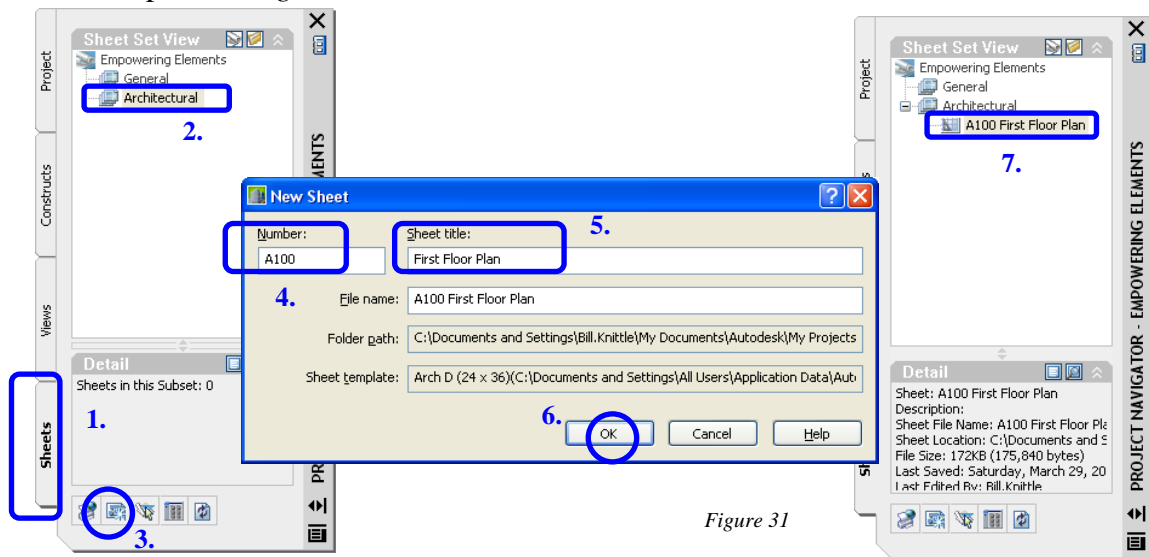

Figure 31
7. Double-click the new sheet **A100 First Floor Plan** in the **Project Navigator** palette. *Figure 31*